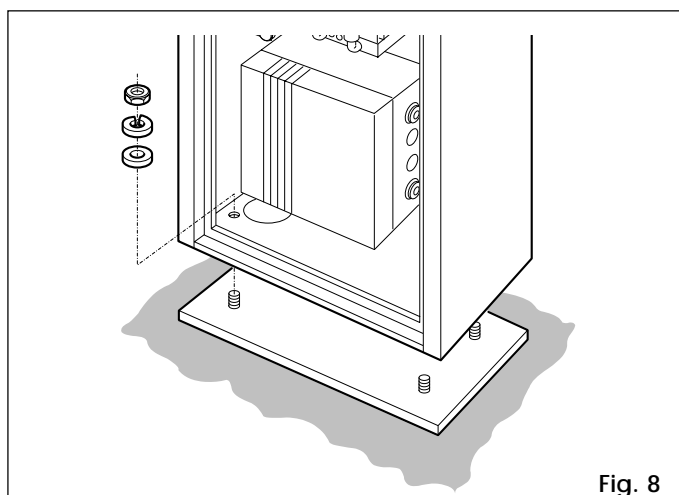

Fig. 8
- 1) Fix the housing to the base plate using the four nuts provided, as shown in Figure 8. The housing should normally be installed with the door on the premises side.